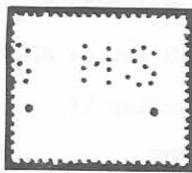
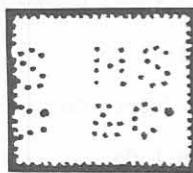

Figure 2
Figure 3
2. Australia HS. I am sure many of you have noted the Australia HS (Figure 2) Perfin with the large hole under the S. I have wondered if this was a code hole or what. However, recently I acquired an HS&Co (Figure 3), and now realized where the large hole came from, but am still not sure of the why. As can be seen, the &C were removed, but the o was left. The HS also exists without the large hole, and may have been a later modification, but the issues seem to overlap. The user of this Perfin has been reported as Howard Smith & Co. Does anyone know the reasons for the change?